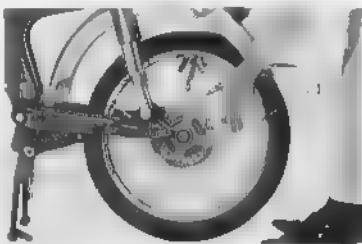
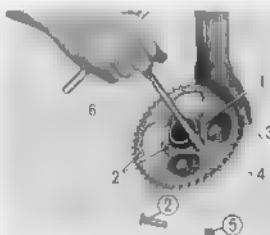

Fig. 4.95 Removing rear wheel
Fig. 4.96 Removing sprocket
6. Remove the rear wheel. (Fig. 4.95)
7. Remove the rear axle sleeve from the final driven flange, unlock the 8 mm longued washer (1) and remove the driver sprocket seating bolt (2).
8. Disassemble the final driven sprocket (3) and final driven flange (4). (Fig. 4.96)